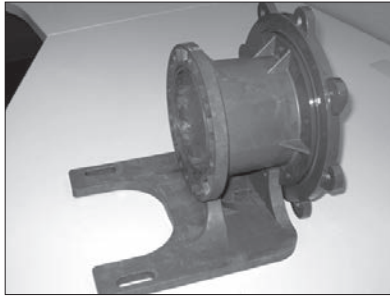

Figure 32
1. Inspect the clamp ring. If clamp ring requires replacement, it is recommended to remove the plastic foot (item 15) first. NOTE: 100/112 frame B5 adapters do not use the foot. See figures 32 and 33. Remove the four (4) M6 bolts (items 28 and 28A).